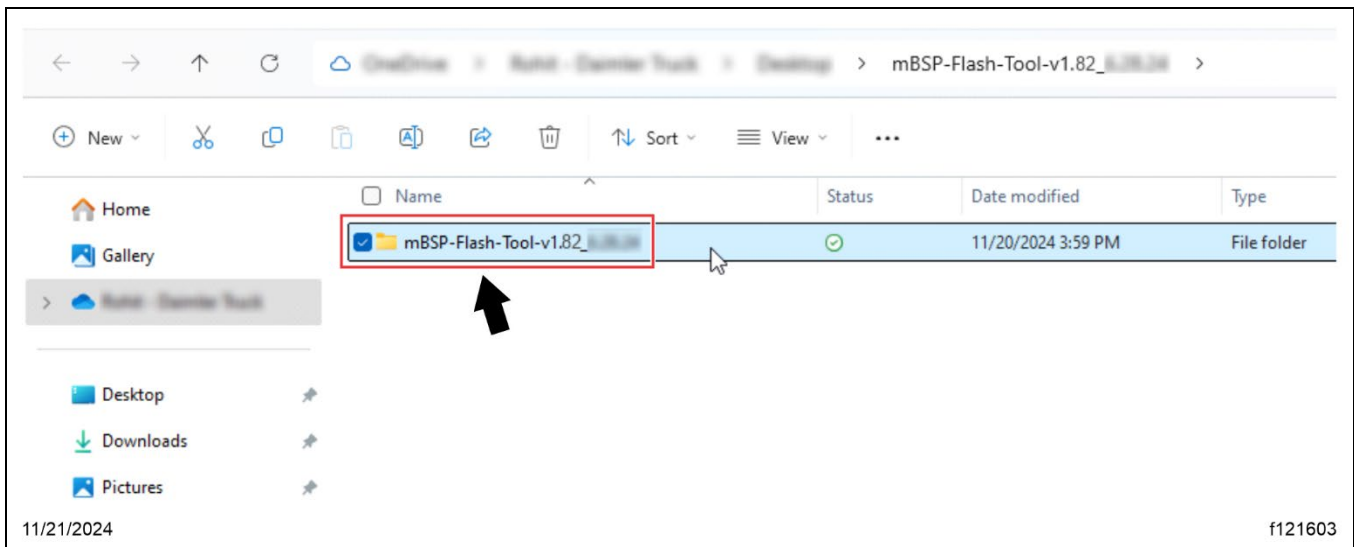

Fig. 28, Extracted Folder
6.3. A new File Explorer window opens. Double-click to open the 'mBSP-Flash-Tool-v1.85' folder. See Fig. 28.